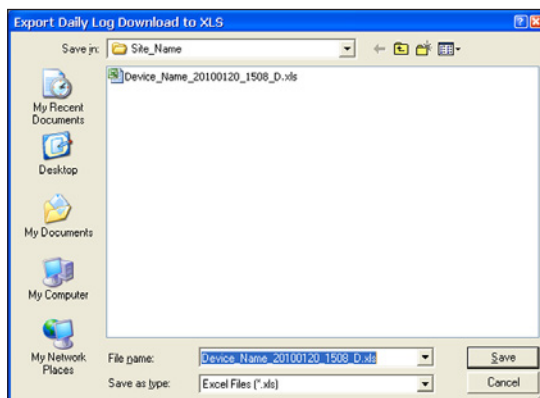

Figure 14.28
3. An Export... window will appear (Figure 14.28). To change the file path and/or file name from the defaults listed below, browse to the desired file path and/or type the desired entry in the field provided. See Log Directory and Filenames, page A-22 for more information.